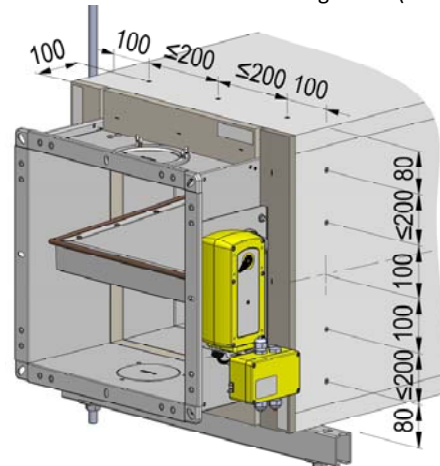

Figure 32: Mounting the PROMATECT® fire protection boards to the ERA2 installation frame
- Mount the fire-resistant lining (pos. 41) consisting of PROMATECT® fire protection boards, T = 35 mm, incl. suspension. The current version of the Promat® Manual, Design 478, must be observed. Screw the PROMATECT® fire protection boards to the ERA2 installation frame all around; see Figure 32 below. Position the suspension in the area of the BKA-EN as shown in Figure 29 (Detail G).